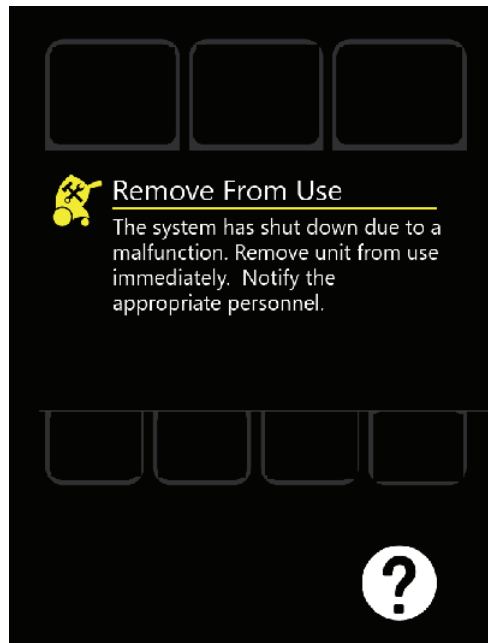
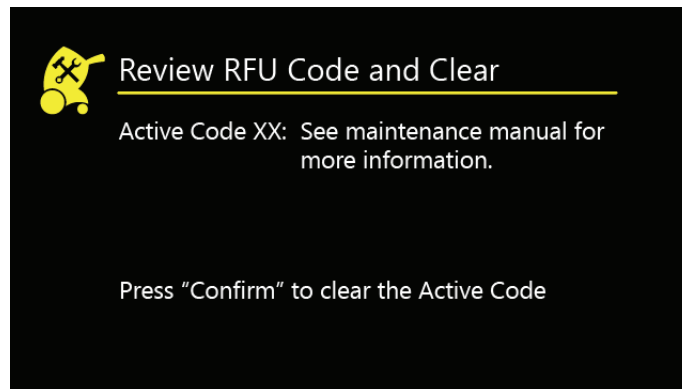

Figure 59 – Remove from use
Figure 60 – Review RFU Code and Clear
1. In the remove from use screen (Figure 59), tap the help button to see the review RFU Code and Clear (Figure 60).